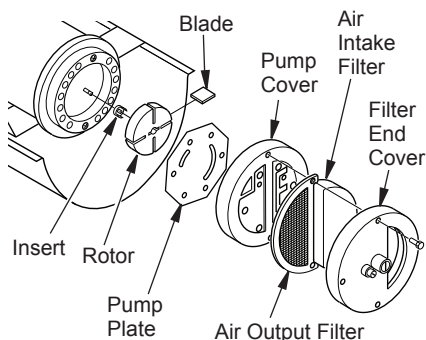

Figure 17 - Rotor Location
2. Remove filter end cover screws using 5/16" nut driver (see Figure 17).